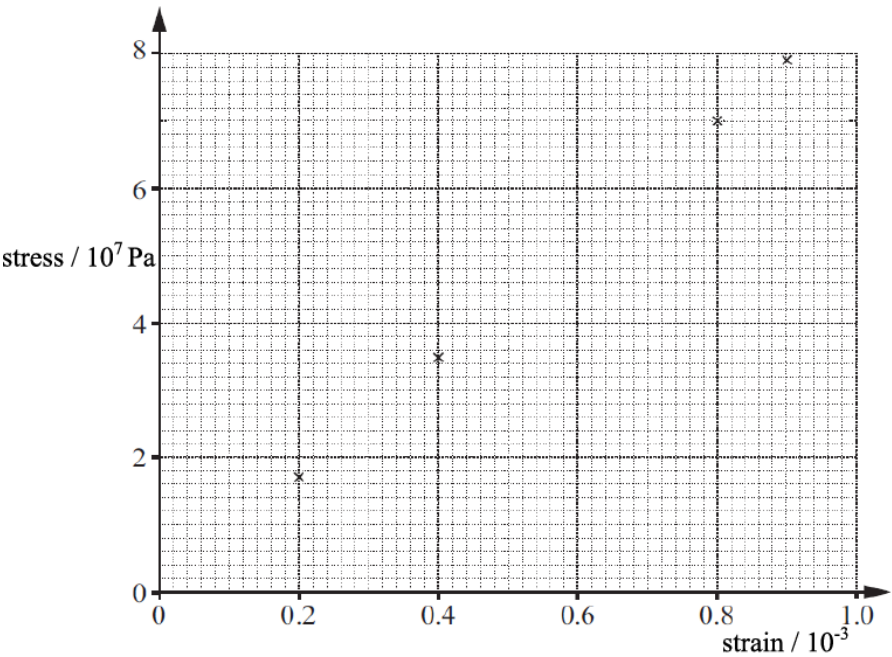

Fig. 23.2
Fig. 23.2 shows a graph of stress against strain for the metal.
- i. On **Fig. 23.2**, plot the data point corresponding to the tension of 5.9 N and draw the line of best fit through all the data points.
- ii. Use **Fig. 23.2** to determine the Young modulus of the metal.